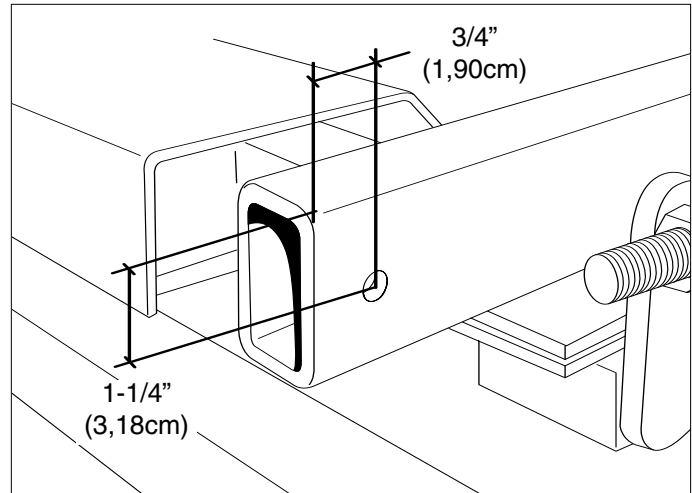

Figure 42. Hole Location
1. Measure and mark the front main frame tubes to the dimensions shown in Figure 42.
2. Using a 3/8" drill bit, drill one (1) hole in each of the main frame tubes from the outside surface of the tube.